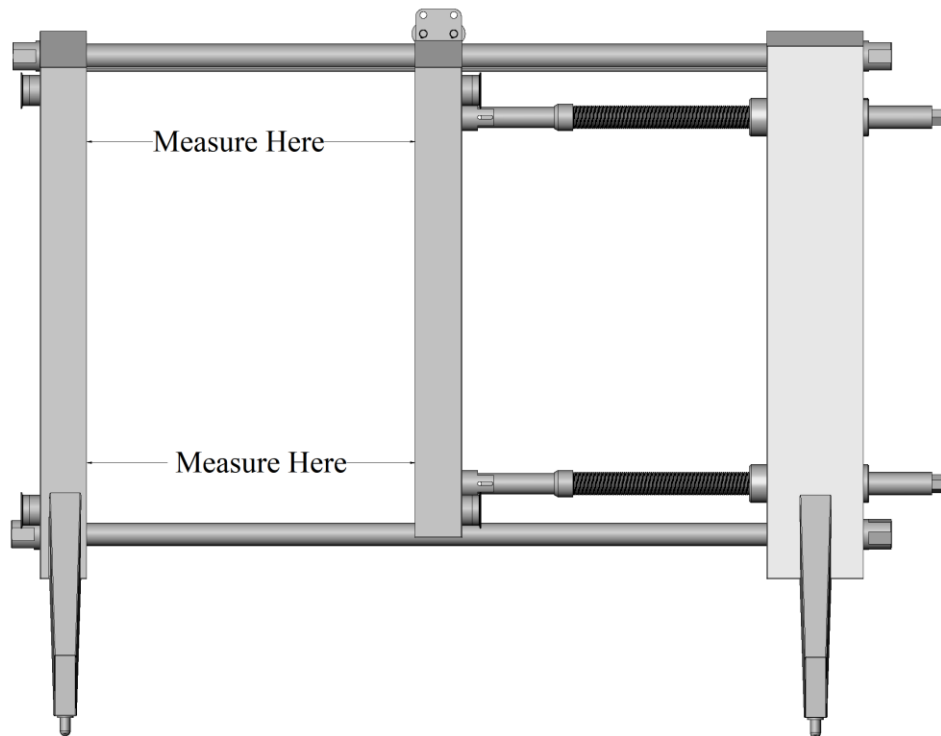
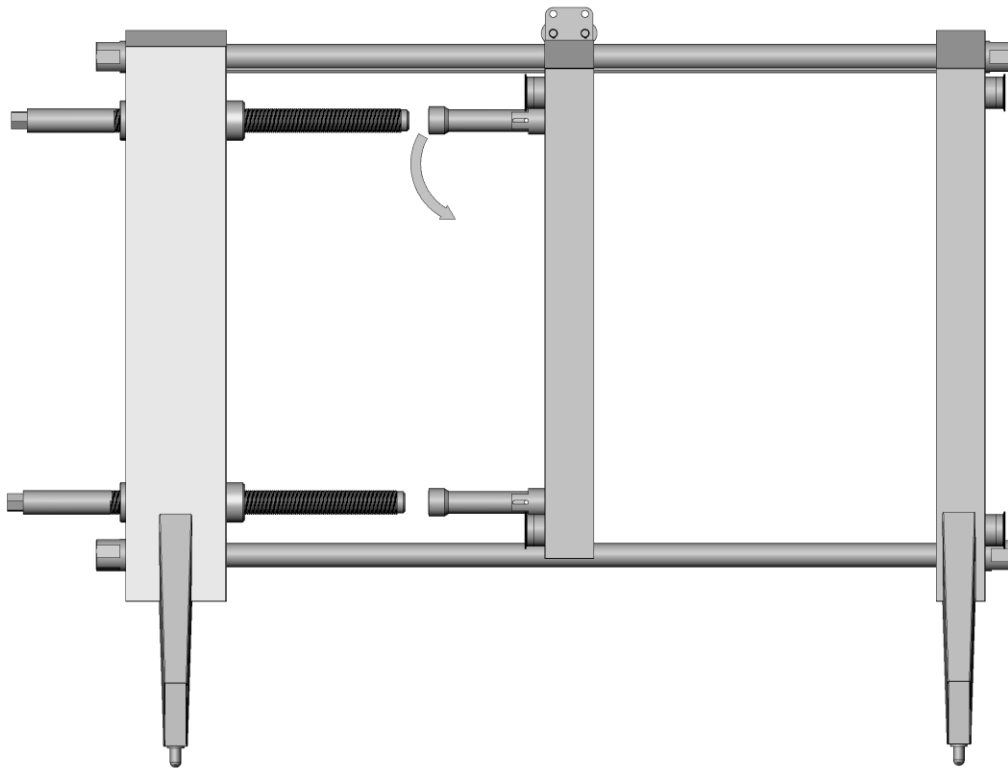
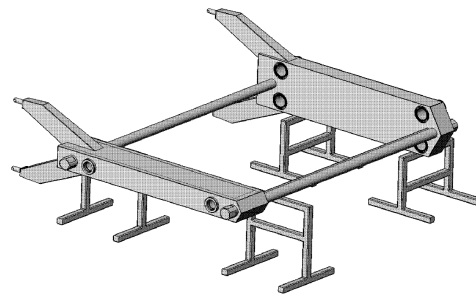

Figure 4
Figure 5
Figure 6-4
When measuring the closed dimension it is recommended to measure near the top and bottom of the plates as seen in figure 4. This will ensure the plates are compressing evenly.
Prior to opening the heat exchanger, ensure that all internal pressure has been removed and that the temperature of the plates is below 90° F. To open the frame, turn the spindle screws counter-clockwise. As with closing the press, the spindles should be retracted evenly when opening the press. As the plate pack expands to its uncompressed state the follower will move back. Once the plates are fully uncompressed the spindles may disengage from the pushtubes. This could allow the pushtube to rotate about the supporting pin causing the pushtube to swing down (see figure 5). Caution should be exercised when opening the frame to prevent injury by the pushtube.
4. Slide the end support onto the rails (see figure 6-4). Note: The bronze bushing should be on the plate or inside of the frame as shown in figure 4 and figure 5.